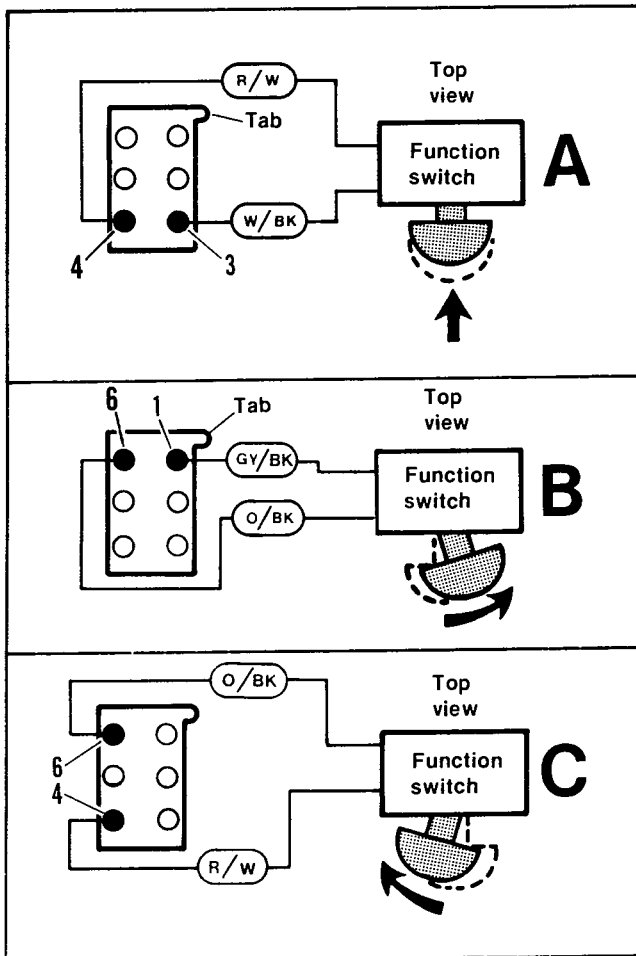

Figure 2. Function Switch Test
2. Refer to Figure 2, View A. With ohmmeter, place probes on pins (3) and (4), and push function switch straight inward. Meter should register zero ohms. A resistance reading significantly higher than zero indicates the switch contacts are not closing and the switch should be replaced. Release the switch control knob. The meter should now register infinite ohms. If the meter registers a reading other than infinite ohms, the contacts are not fully opening and the switch should be replaced.
3. Refer to Figure 2, View B and C. Place the meter probes on the pins and move the switch control knob in the direction shown. The meter should indicate zero ohms when moved to either side with the probes at appropriate connector pins. The meter should register infinite ohms when the switch knob is released.